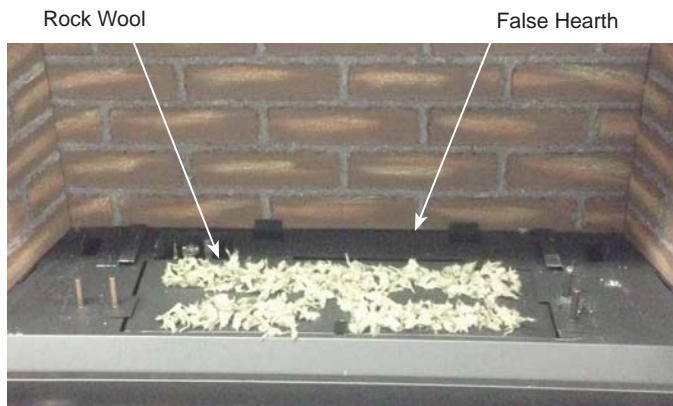

Figure 67 –
1. Your fireplace is supplied with three (3) 8-gram bags of rock wool embers: Use one (1) 8 gram bag or rock wool for propane/LP models and up to three (3) bags of rock wool for natural gas models depending on the size of your fireplace.
2. For best results in flame appearance and operation, pull the rock wool apart into dime-sized pieces or smaller. Cover the entire ported surface of the burner with one thin layer of rock wool. *Figure 67*